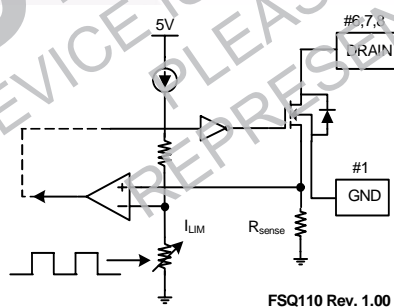

Figure 16. Soft-Start Function
5. Soft-Start: The FPS has an internal soft-start circuit that slowly increases the SenseFET current after start-up, as shown in Figure 16. The typical soft-start time is 10ms, where progressive increments of the SenseFET current are allowed during the start-up phase. The pulse width to the power switching device is progressively increased to establish the correct working conditions for transformers, inductors, and capacitors. The voltage on the output capacitors is progressively increased to smoothly establish the required output voltage. This also helps prevent transformer saturation and reduces the stress on the secondary diode during startup.